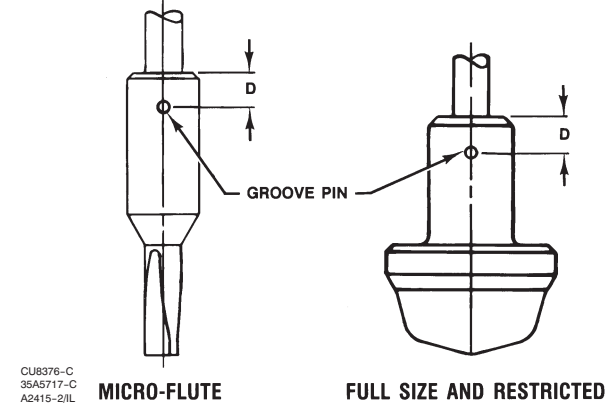

Figure 10. Bolt Torque for Plug/Stem Connection and Plug/Adaptor Connection and Pin Replacement
1. **For valves with metal seats,** screw the valve stem (key 7) into the valve plug (key 2). Tighten to the torque value given in figure 10. Refer to figure 10 to select the proper drill size. Drill through the stem using the hole in the valve plug as a guide. Remove any chips or burrs and drive in a new pin (key 8) to lock the assembly.
3. **For all valves with composition seats,** screw the valve stem (key 7) into the valve plug guide (key 27, figure 13). Tighten to the torque value given in figure 10. Refer to figure 10 to select the proper
2. Thread the valve plug (key 2) or, the valve plug guide (key 27, figure 13) if the valve has composition seats, onto the adaptor (key 24, figure 11). Tighten to the torque value given in figure 10.
3. If the valve plug is not pre-drilled, drill a hole according to figure 10. Otherwise, select the proper drill size (figure 10) and drill through the adaptor using the hole in the valve plug as a guide. Remove any chips or burrs and drive in a new pin (key 8) to lock the assembly.